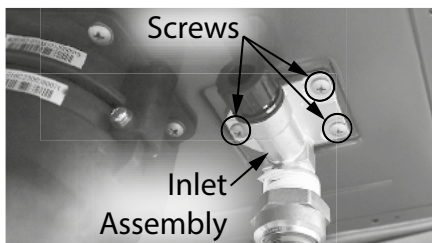

Figure 5 - Inlet assembly location
- 20 Locate the inlet assembly at the bottom right side of the water heater as shown in Figure 5.
- 23 Locate the three (3) screws securing the inlet assembly to the base of the water heater. Use a Phillips screwdriver to remove the screws. Place screws aside in a safe place for reinstallation. See Figure 5.